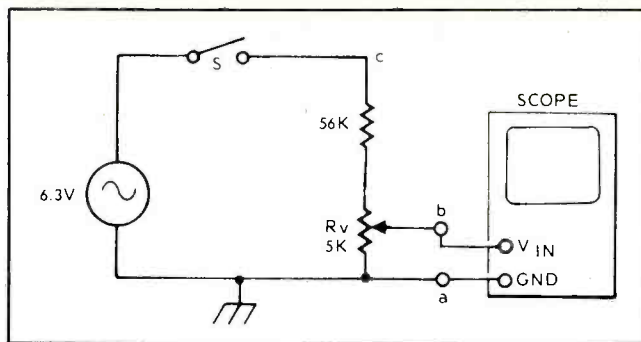

Fig. 12—Test setup for determining scope sensitivity.
1) Connect the circuit of Fig. 12, connecting the output of the voltage di-